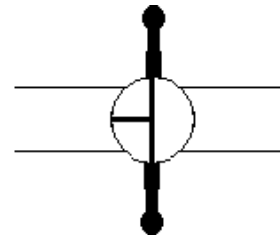

Figure 2: Bleed pump
6. **Bleed vacuum before turning it off.** (Figure 2)